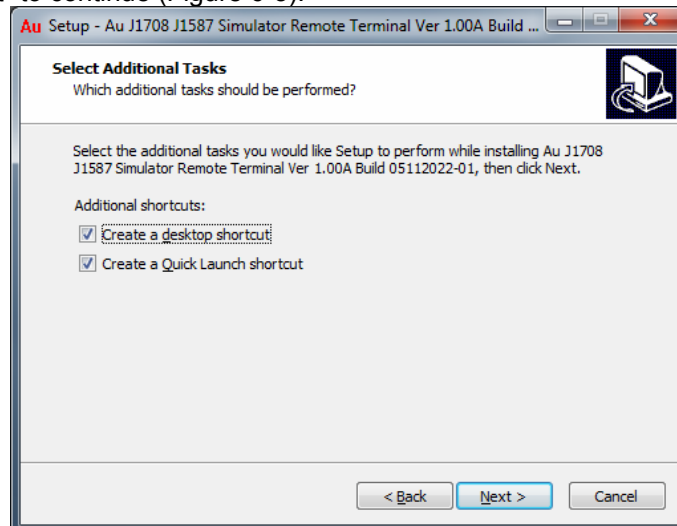

Figure 6-5
5. A “Select Additional Tasks” window will pop up. Check both “Create a desktop icon”, and “Create a Quick Launch icon”, click “Next” to continue (Figure 6-5).